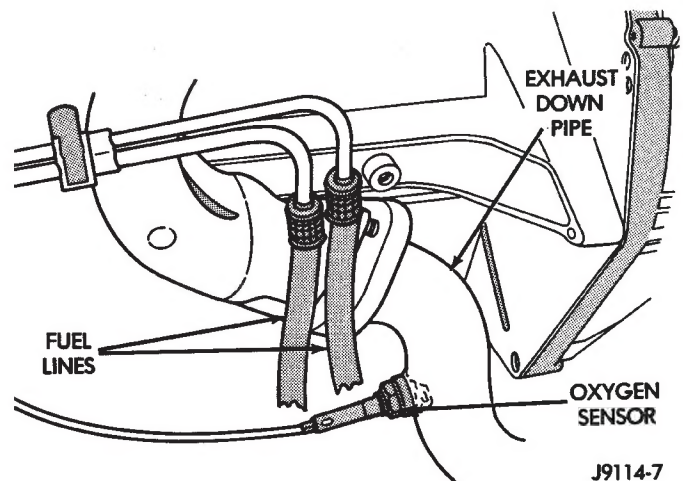
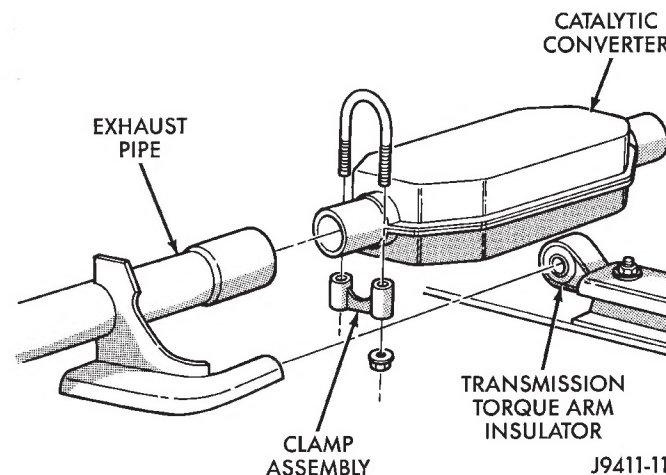

Fig. 2 Oxygen Sensor
Fig. 5 Exhaust Pipe-to-Catalytic Converter Connection—YJ Vehicles
- (3) Remove the oxygen sensor from the exhaust pipe (Fig. 2).
- (4) Disconnect the exhaust pipe from the engine exhaust manifold. Discard the seal (4.0L engine, only).
(3) Remove the oxygen sensor from the exhaust pipe (Fig. 2).
(4) Disconnect the exhaust pipe from the engine exhaust manifold.
(5) Disconnect the exhaust pipe from the catalytic converter and slide the pipe out of the transmission torque arm insulator (Fig. 5). Remove the exhaust pipe.
(1) Slide the exhaust pipe into the transmission torque arm insulator and onto the catalytic converter (Fig. 5).
(2) Clean the mating surface of the engine exhaust manifold flange.
(3) Connect the exhaust pipe to the engine exhaust manifold using new nuts. DO NOT tighten the nuts.
(4) Align the exhaust pipe.
(5) Use a new clamp at the exhaust pipe to catalytic converter connection and tighten the nuts to 61 N·m (45 ft. lbs.) torque.
(6) Tighten the exhaust pipe-to-engine exhaust manifold nuts to 31 N·m (23 ft. lbs.) torque.
(7) Coat the oxygen sensor with anti-seize compound. Install the sensor and tighten the nut to 48 N·m (35 ft. lbs.) torque.
(8) Lower the vehicle.
(9) Start the engine and inspect for exhaust leaks and exhaust system contact with the body panels. Adjust the alignment, if needed.